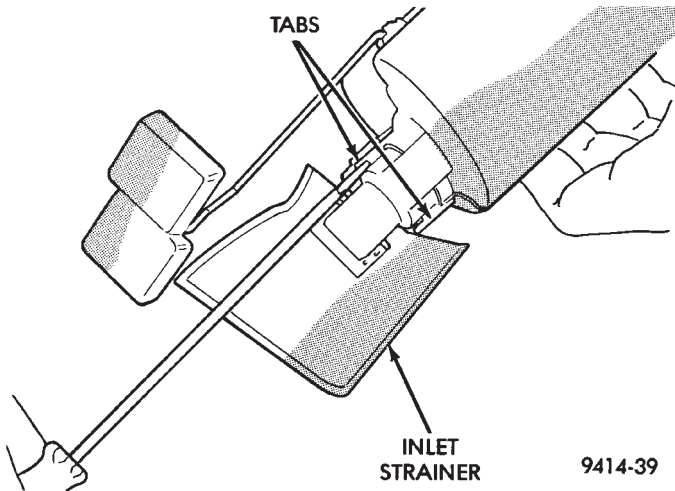

Fig. 20 Inlet Strainer Removal
- (1) Remove fuel pump module. Refer to Fuel Pump Module Removal in this section.
- (2) Using a thin straight blade screwdriver, carefully pry back the locking tabs on fuel pump reservoir and remove the strainer (Fig. 20).
- (3) Remove strainer O-ring from the fuel pump reservoir body.
- (4) Remove any contaminants by washing the inside of the fuel tank.